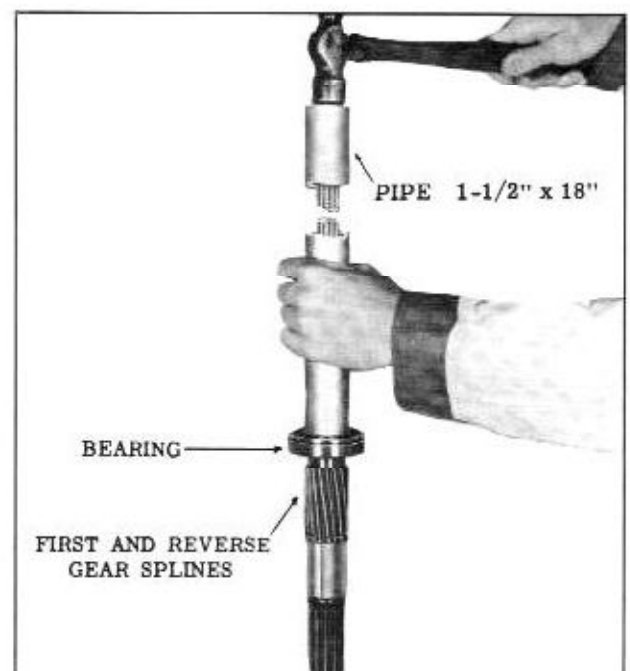

Fig. 11-25 Installing Rear Bearing
4. To assemble the parts, install the bearing on the main shaft with the shielded side toward the shoulder of the first and reverse splines on the main shaft and seat the bearing against the first and reverse gear splines on the main shaft. (Fig. 11-25)